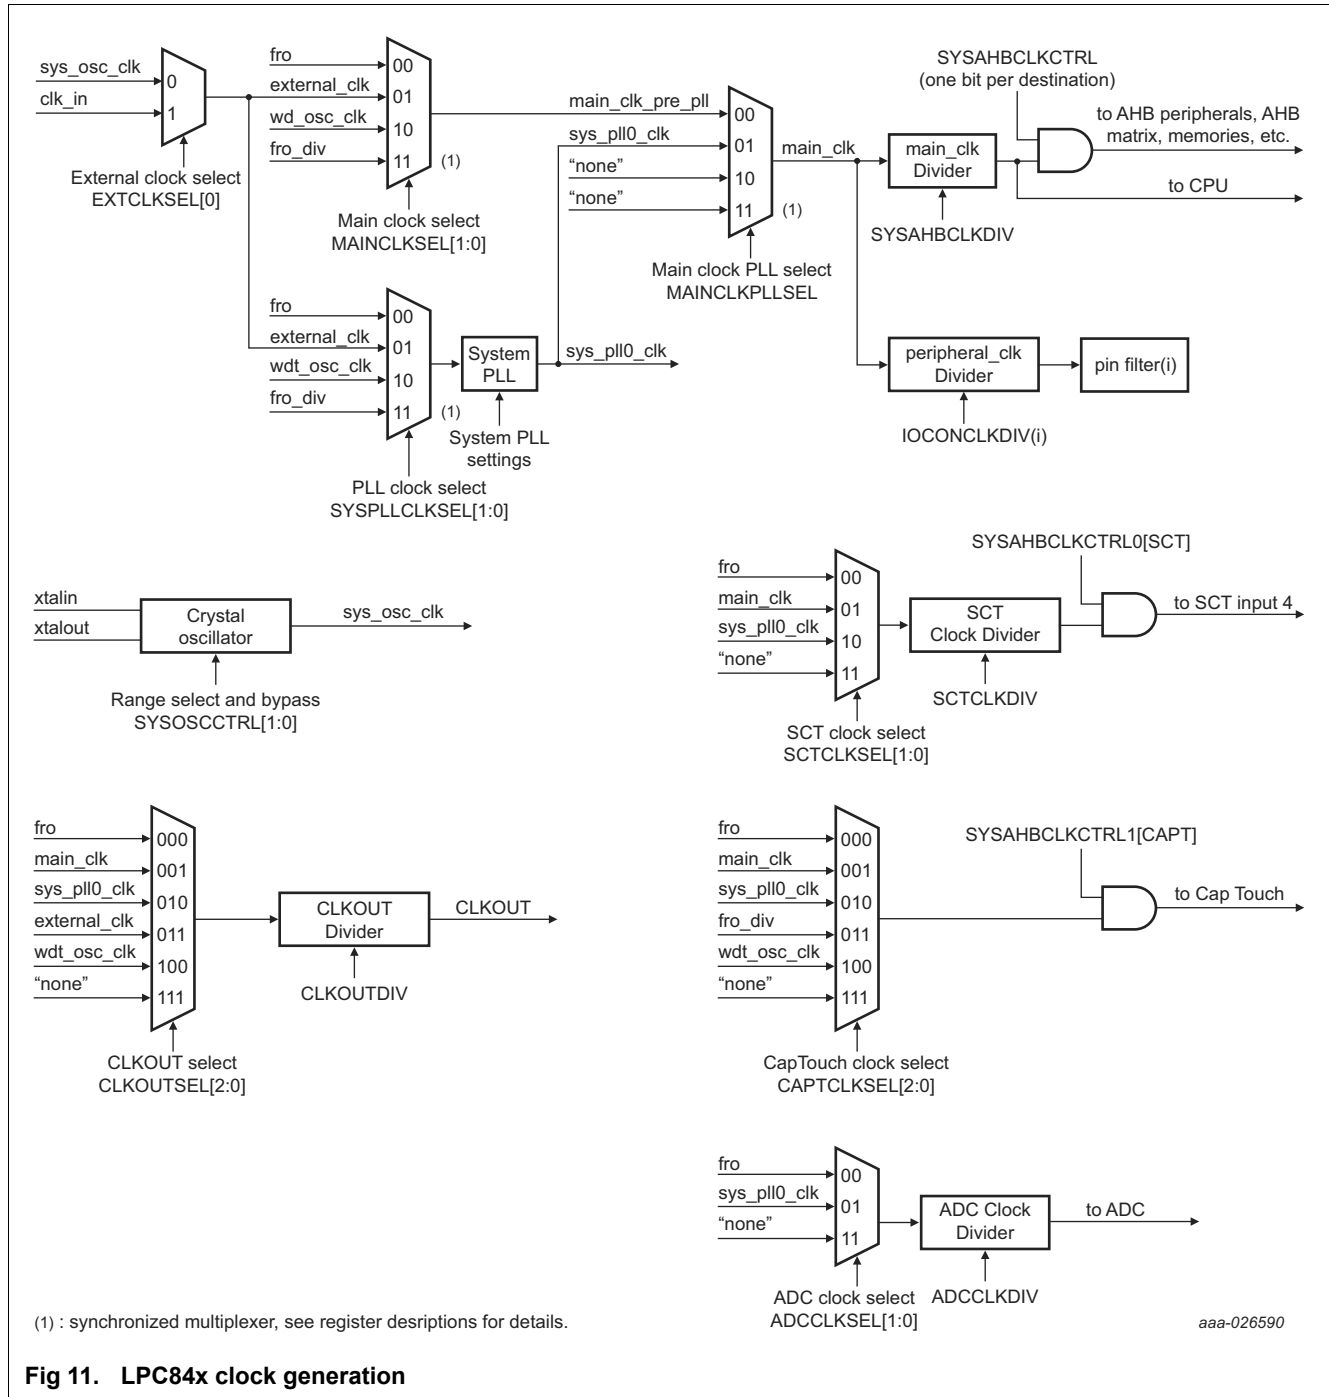

Fig 11. LPC84x clock generation
- Program the input glitch filter with different filter constants using one of the IOCON divided clock signals (IOCONCLKCDIV, see Figure 11 “LPC84x clock generation”). You can also bypass the glitch filter.
See Figure 11 for an overview of the LPC84x clock generation.